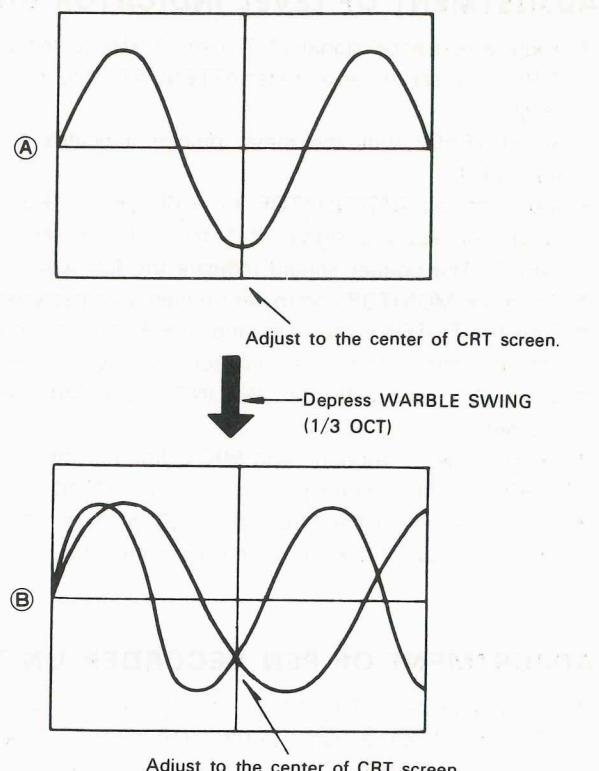

Fig. 11
- * Adjust VR404 and VR406 as shown in Fig. 11-(B).
- * Adjust VR403 as shown in Fig. 11-(B).
- * Adjust VR407 as shown in Fig. 11-(B).